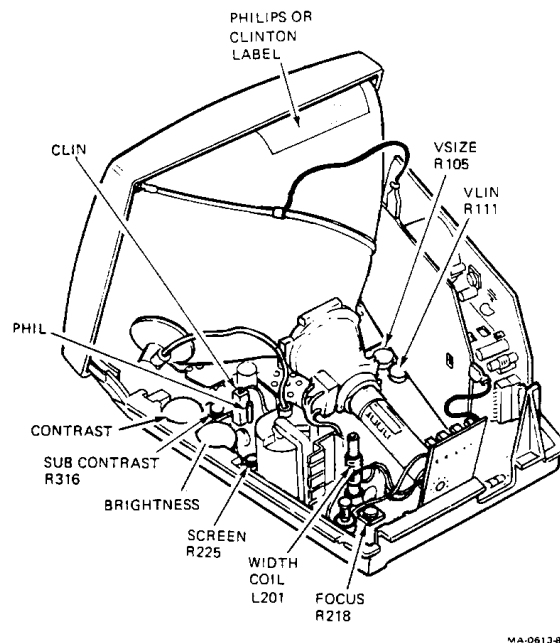

Figure 3-1 Monitor Adjustment Controls
When installing the monitor and logic with arc protection assembly, make sure the jumper at J7 or J8 is set to match the CRT manufacturer — Philips or Clinton. The manufacturer's name is on the label on top of the CRT (Figure 3-1). Place the jumper on J8 (CLIN) for Clinton, or J7 (PHIL) for Philips.
Figure 3-1 shows the location of the controls you use to make adjustments.
1. Look at the label on the top of the CRT to determine the manufacturer (Figure 3-1). If the CRT is made by Clinton, place the jumper on J8, labeled CLIN. If the CRT is made by Philips, place the jumper on J7, labeled PHIL.